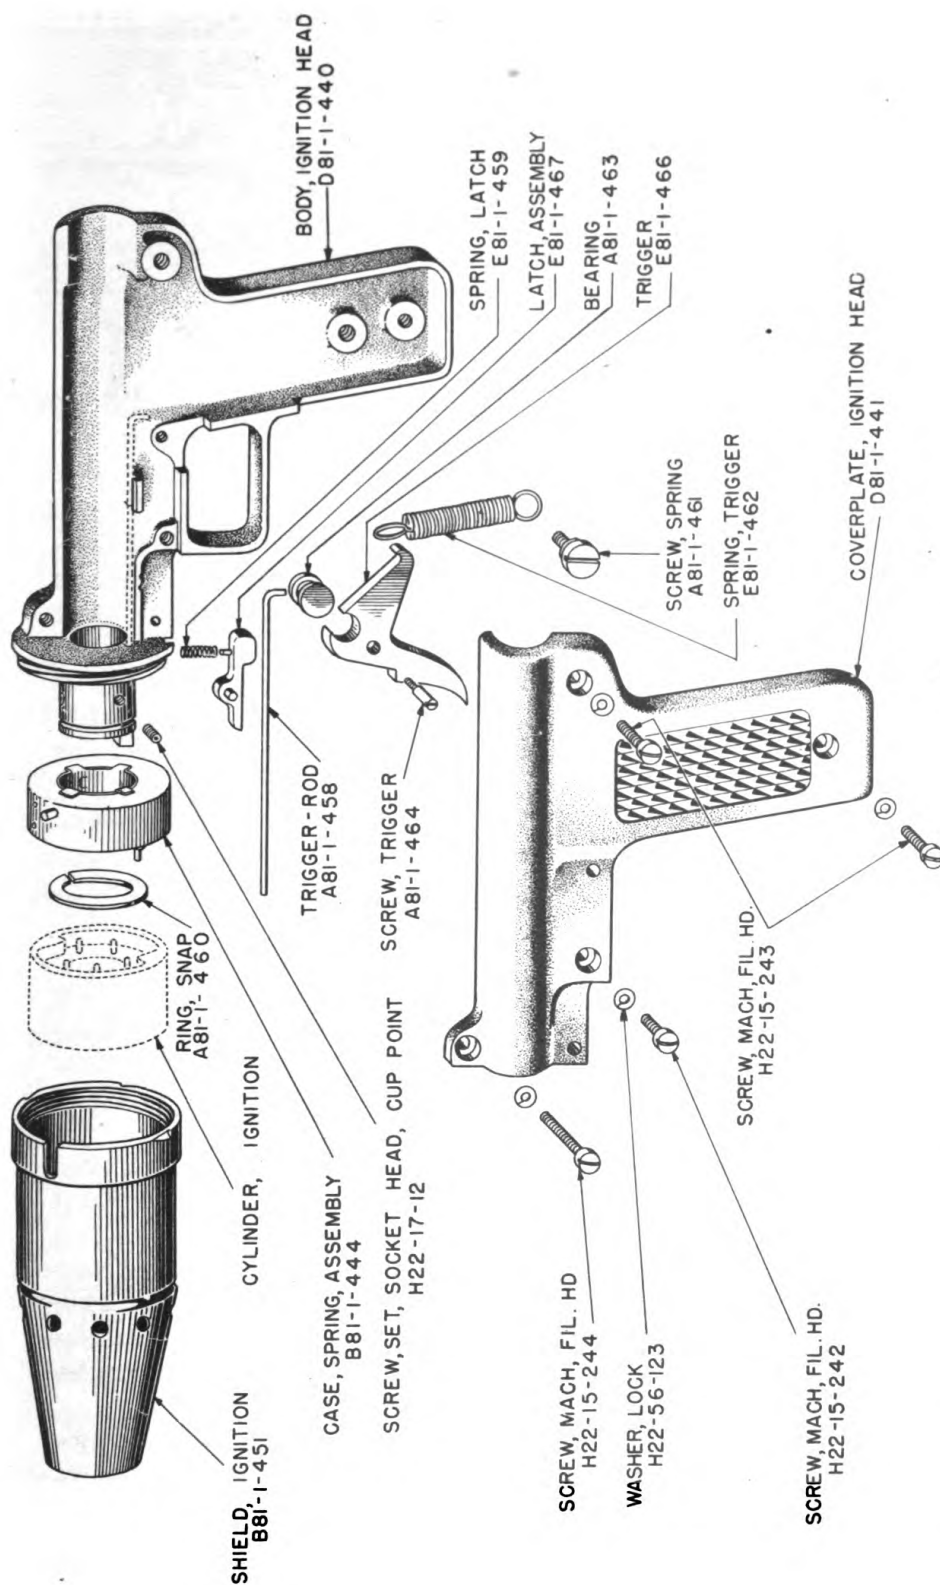

Fig 55. Ignition head disassembled, showing nomenclature and Chemical Warfare Service stock numbers for requisitioning spare parts.
(2) Valve spring. If valve spring has lost resiliency, grasp it by the ends and stretch slightly, or replace.
(3) Nozzle leaks. If valve leaks at nozzle, and cleaning (Par 55 d) does not remedy the leak, adjust needle (see d above). If leak persists, either replace barrel and needle, or lap seat. To lap, place lapping compound on seat (in nozzle) and on needle point. Turn needle in seat until parts make a tight connection when seated. Remove lapping compound, reassemble, adjust needle, and test fire.
(4) Atomizer hole. If atomizer hole is clogged, clean with fine wire. (Par 52 i)
a. Description and functioning. (Fig 55) The ignition head ignites the fuel when the flame thrower is fired. It is mounted on the fore part of the barrel. It consists of:
(1) Ignition-head body, which includes half of the front grip. Three set screws serve to tighten the ignition-head body to the barrel. The ignition-head body is made of aluminum.
(2) Trigger and trigger bearing, held between the ignition-head body and the coverplate by the trigger screw.
(3) Trigger rod, one end of which is held in the trigger bearing, the other extending through the ignition-head body. Pulling the trigger shoves the trigger rod forward, causing it to push a match in the ignition cylinder. The match ignites an incendiary charge in the ignition cylinder.
(4) Trigger spring, which hooks over a projection of the trigger and is held at its lower end by a screw, which is held in the ignition-head body. This spring pulls the trigger rod back from the firing position after the firer releases the trigger.
(5) Latch, located in the ignition-head body, in front of and above the trigger guard. The latch, set on a pin, engages the notch of the ignition shield, locking it in place. A latch spring holds latch in position.
(6) Coverplate, an aluminum casting which constitutes the left section of the front grip and covers the working parts seated in the ignition head body. The coverplate and body are held together by four screws and four lock washers.
(7) Spring case, which turns the ignition cylinder when the trigger is pulled.